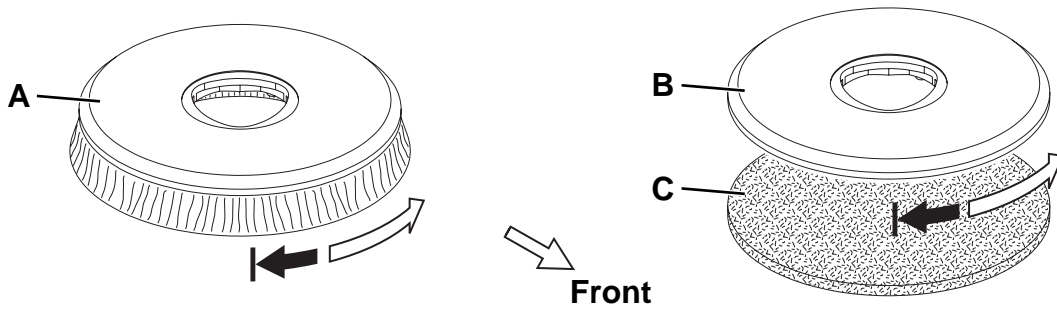

Figure 3
Install either the brush (A, Fig. 3) or the pad-holder (B and C) according to the type of floor to be cleaned.
2. Lift the brush/pad-holder deck (13) by prying the handlebar (2).
3. Place the brush (A, Fig. 3) or the pad-holder (B - C) under the deck.
4. Lower the deck (13) by using the handlebar (2).
5. Turn on the machine by pressing the switch (41).
6. Press the push-button (47) for a few seconds, to engage the brush/pad-holder to the deck hub (13). If necessary, repeat the procedure until the brush/pad-holder is engaged.